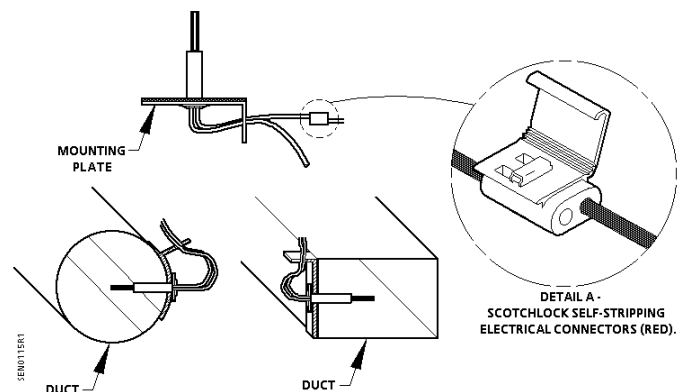

Figure 2. Single Point Thermistor Sensor Mounted on a Square or Round Duct.
4. Use the two 3M[®] Scotchlock self-stripping red electrical connectors to wire the sensor to the field wiring. No wire stripping is required to use the connectors. See *Detail A* in *Figure 2*. These connectors will accept 22 to 16 AWG solid or stranded wire.